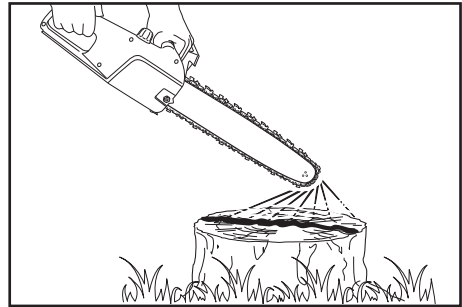

Fig. 3d
1. Make sure the guide bar (4) and the saw chain (3) are in place when you check the oil delivery.
2. Start the product; keep it running at no load and check if the chain oil is delivered as shown in the figure (Fig. 3d).